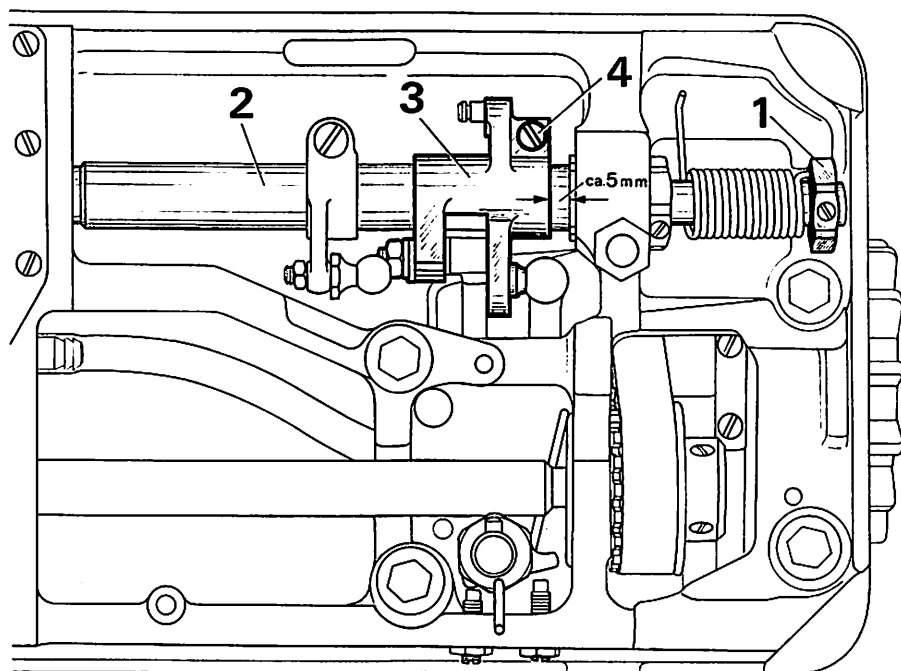

Fig. 2.0.2.
The feed motion can also be zeroed with the gearcase closed (see Fig. 2.0.2.).
- 2.5. Adjustment procedure to be applied when the gearcase cover is closed (Fig. 2.0.2.).